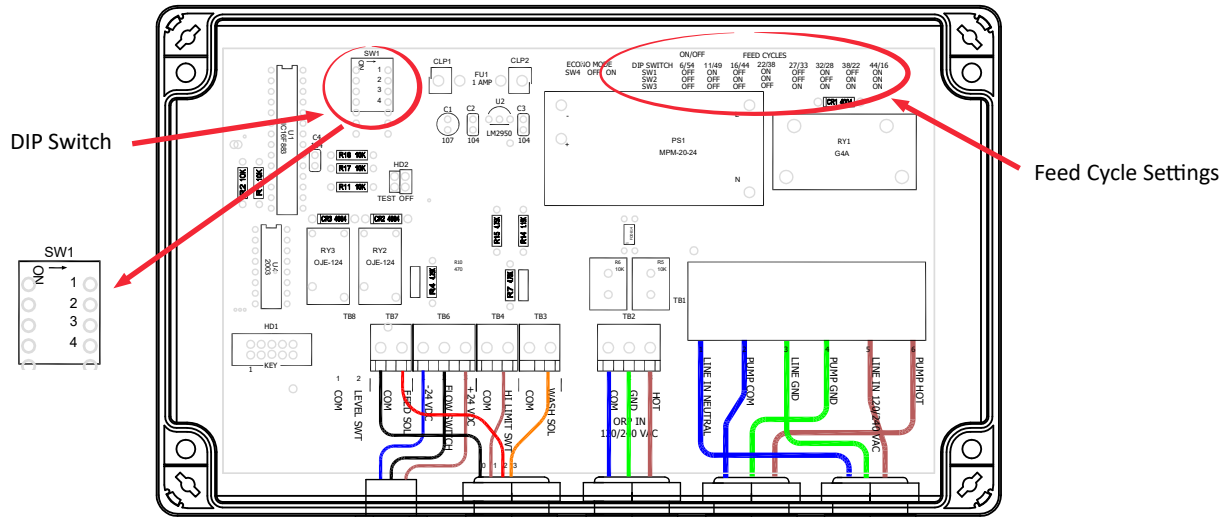

Figure 9. DIP Switch Location and Feed Cycle Settings
2. The DIP switches are located near the top left of the controller and the feed cycle settings are on the top right. See Figure 9, below.